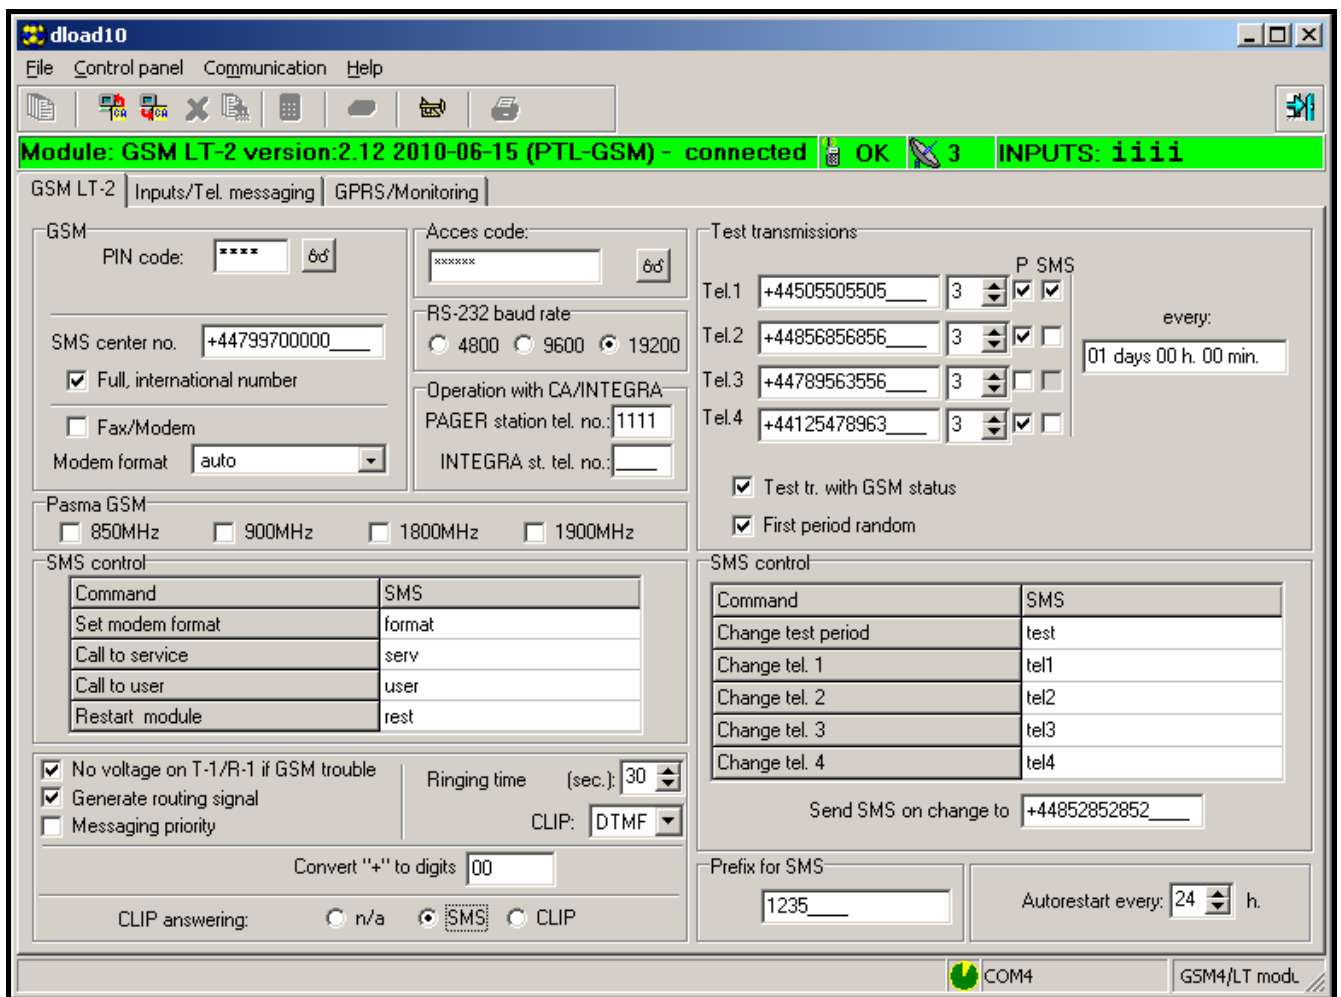

Figure 9.
4. Program the module. After starting the DLOAD10 program, the main window will open (see: Fig. 9). The green bar in the upper part of the window shows the current status of the module, antenna signal level and input status. Just below the green bar you can find 3 tabs: **GSM LT-2**, **Inputs/Messaging** and **GPRS**. They are described below.
This tab allows the user to configure the basic working parameters of the module. The values shown on Fig. 9 are just an example. By default, the data related to test transmission and SMS control, as well as the PIN code, are not programmed. The parameters programmable in the **GSM LT-2** tab correspond to the control functions 1–42, 93, 94, 98, 99 and 111-114 and have been reviewed at the local control (DTMF) description in section **Module Programming**.